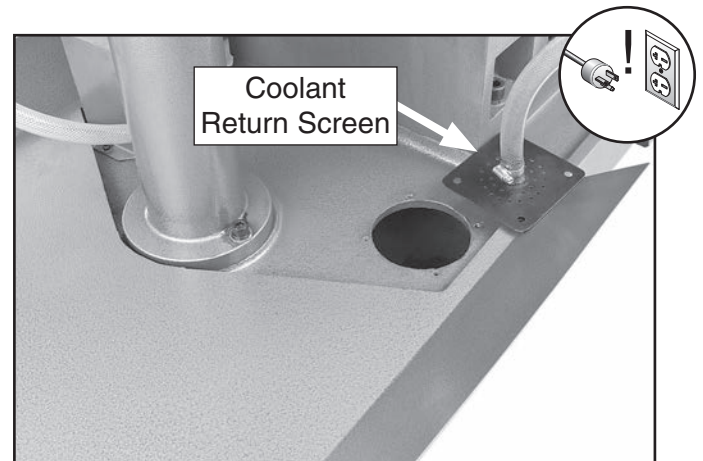

Figure 72. Coolant return screen removed.
2. Clean away debris and grime from coolant return screen and surrounding area, then remove screen from base, as shown in **Figure 72**.